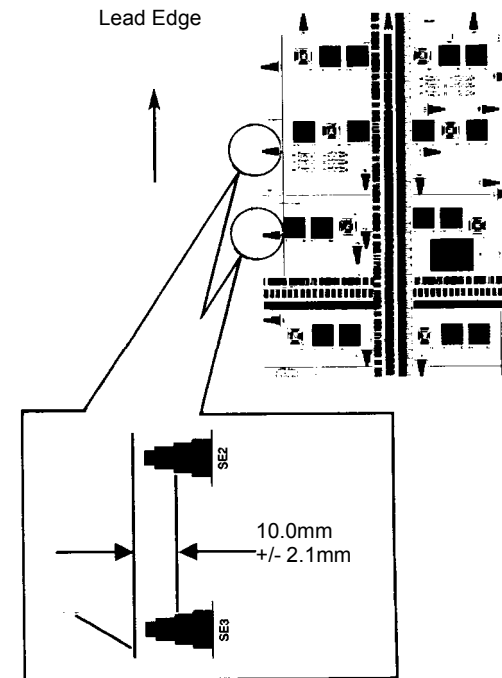

Figure 1 Checking IIT Side Edge Registration
3. On the 2nd copy, check that the distance from the lead edge to the top of Step 3 on the SE2 and SE3 scales is 10.0mm +/- 1.6mm (**Figure 1**).